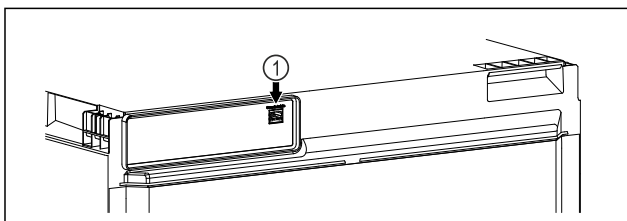

Fig. 26
- SmartModule Fig. 26 (1) has been inserted.